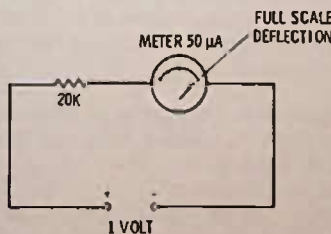

Fig. A-7.
4. A. A 50-microampere meter will deflect full scale if a 20K resistor is connected in series with it and 1 volt placed across the combination, Fig. A-7. By Ohm's law: